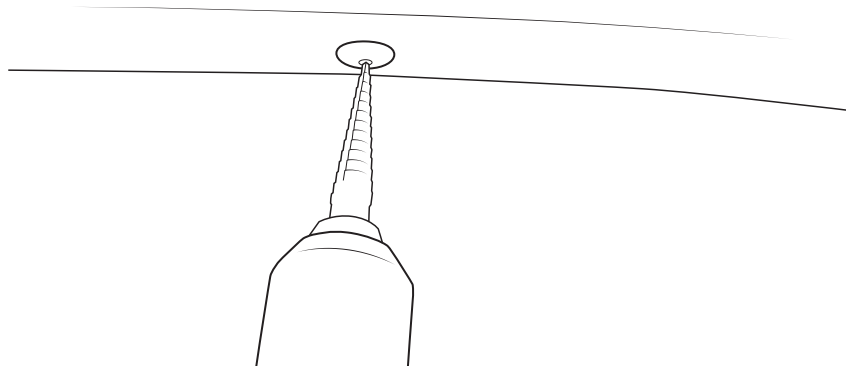

Figure 3
2. Drill out the plastic rivets holding inner fenders to fender flares (fig. 3).